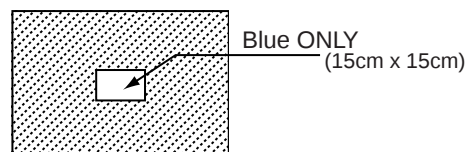

FIG. 1
1. Apply 100IRE WINDOW PATTERN, Pyrex 15cm x 15cm (1Vp-p) See the FIG 1.